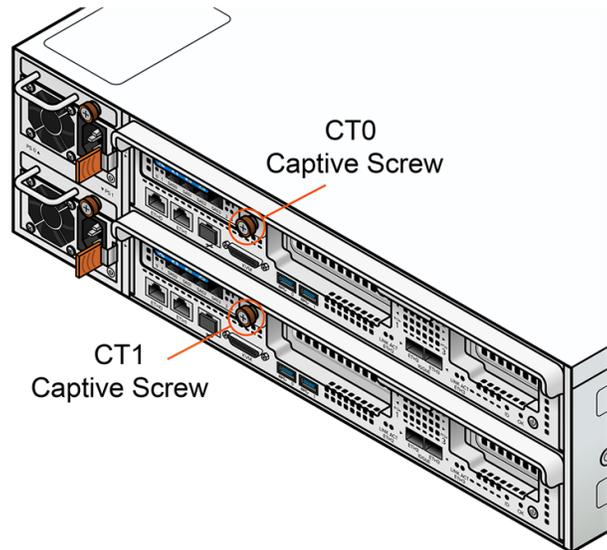

Figure 7-9. Loosening the Captive Screw
1. Loosen the orange captive screw on the rear panel of the controller. See Figure 7-9.